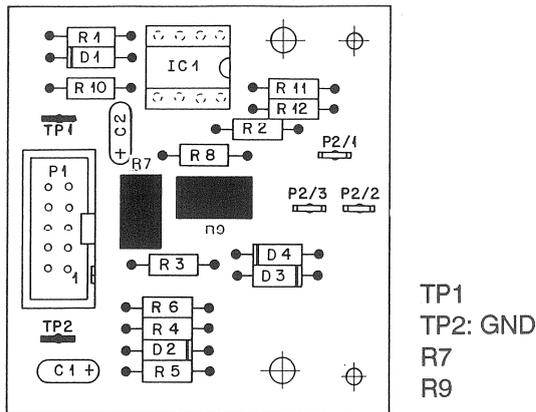

Fig. 20 Tape tension sensor board 1.820.772.81
- Connect the digital voltmeter to the two test points TP1 and TP2 (GND), Fig. 20.